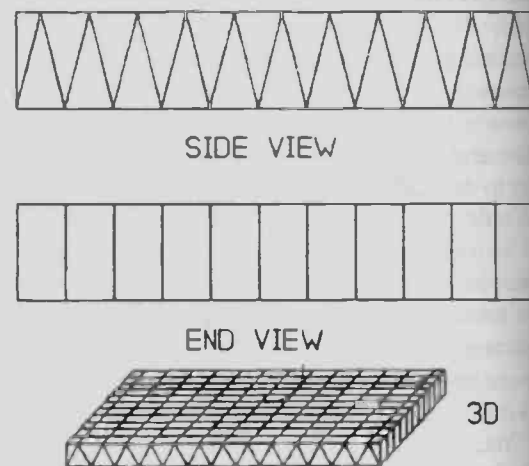

FIGURE 12-24: Foam wedge cutting pattern.
**BUILDING A HOT-WIRE BOW.** Cut the wedges which form the sound absorbers in an anechoic chamber from sheets of polyfoam. This is a yellow/white soft foam often used for mattresses. You can cut small wedges with a sharp serrated knife, but an electric steak knife works better. *Figure 12-24* shows suitable cutting patterns.